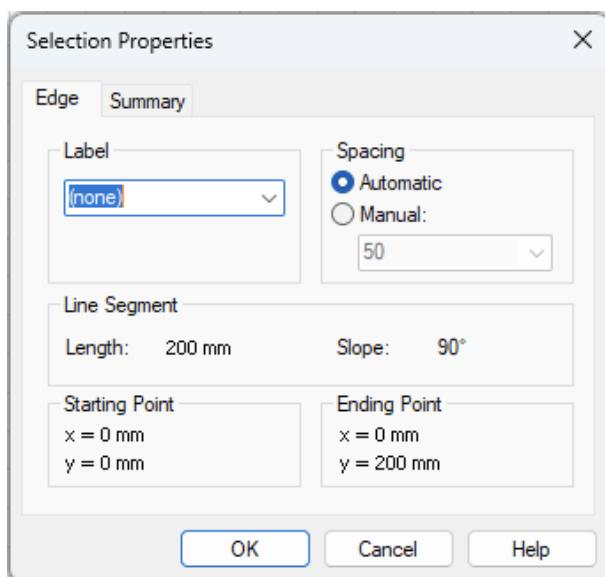

Figure 7: The Selection Properties dialog box used to name model elements.
3. The Selection Properties dialog box will appear (see Figure 7).